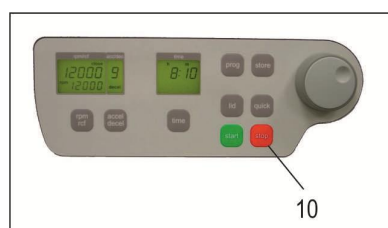

Figure 26
By the „stop“ key (10) (see figure 26) you can interrupt the run at any time. After pressing the key the centrifuge decelerates with the respective pre-selected intensity down to stand still.